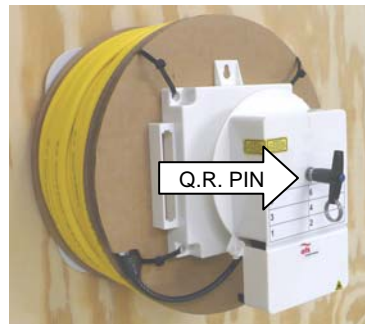

Fig. 3
4. - Firmly reinstall the quick release pin until an audible click is observed (lightly pull the on the Combiner to verify the tool retention. (Refer to Figure 3)